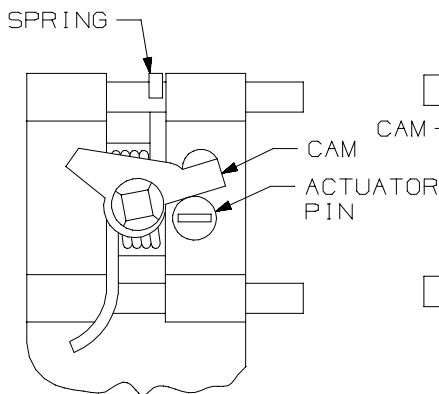

FIGURE 1
③
- C. CHECK CAM POSITION ON PUSH HANDLE ASSEMBLY. (SEE FIGURE 1)